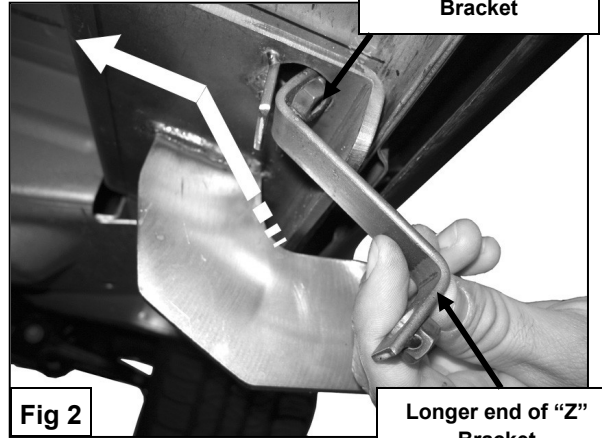

Fig 2
5. Insert the shorter end facing up of a "Z" Bracket through the bottom rounded hole in Mounting Bracket and through factory hole located on the bottom of the floor panel rail. Orient "Z" Bracket to the factory hole located on the side of the floor panel rail (Figure 2).